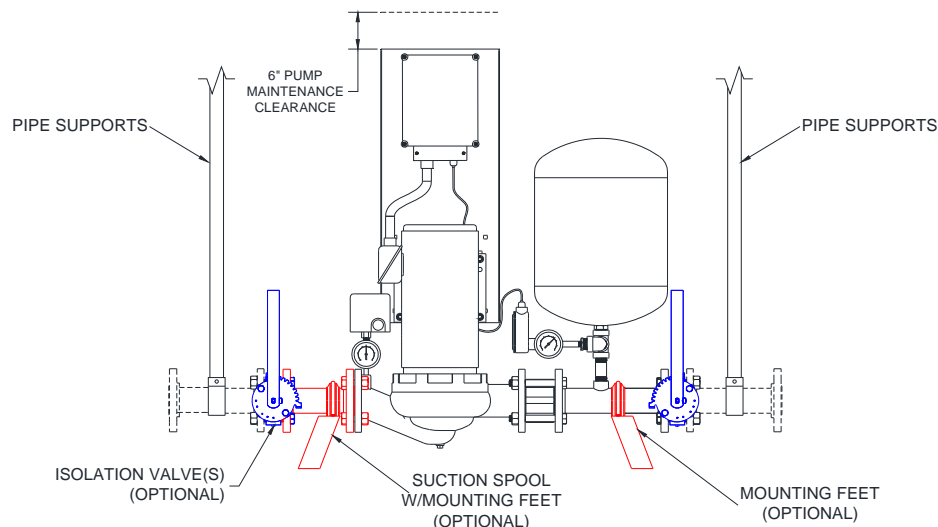

Figure 4-1 Pipe Supports
2. A standard *Pressurizer-VS* is installed in-line of the system piping. Optional mounting feet can be used for floor mounted or wall mounted installations. See paragraph 3.2.1. and Figure 4-1